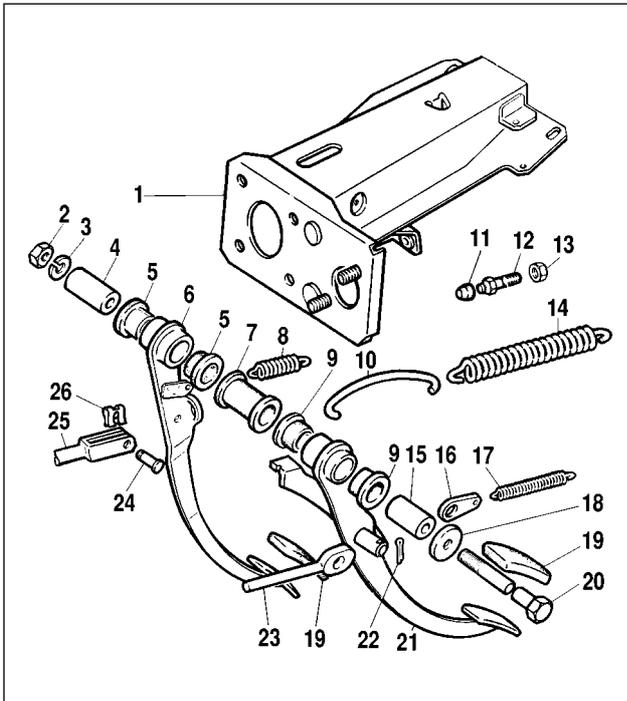

Fig. 6-8. Clutch/brake pedal bracket, exploded view:
- disconnect the servo unit push rod from the brake pedal, having removed lock shackle 26 (fig. 6-8) and taken out pin 24;